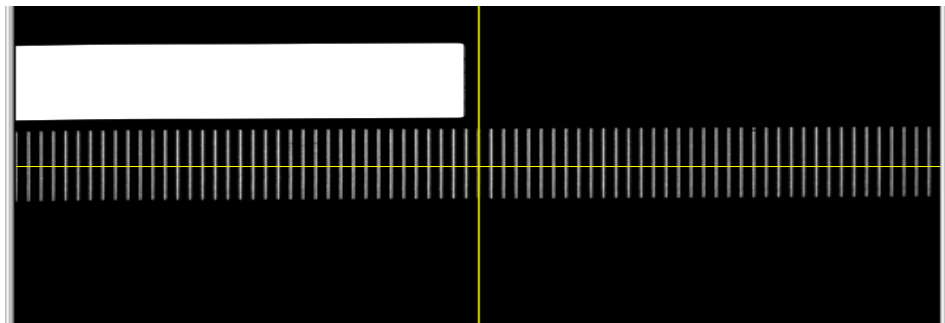

Fig. 4-226 Correct orientation of calibration sample for X scanner calibration
- The calibration standard has to be positioned as indicated in Fig. 4-226.